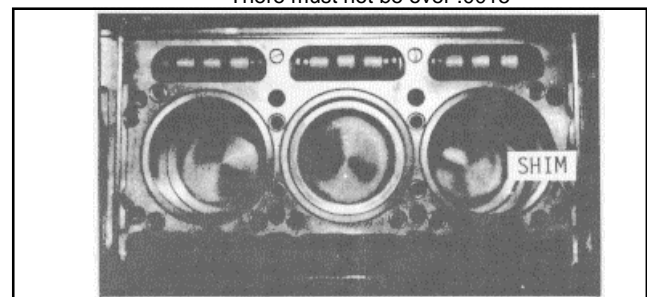

Fig. 9 Cylinder Head Support Shims in Place
- (b) To prevent end cylinder head bolt breakage, support shims (Fig. 9) are attached at each end of the cylinder block (two per cylinder bank). Remove the adhesive paper and place the support shims, adhesive side down, in position at each end of the cylinder block. Note: The scallop in the shim placed at the rear of the block must be at the oil supply hole (Fig. 9).